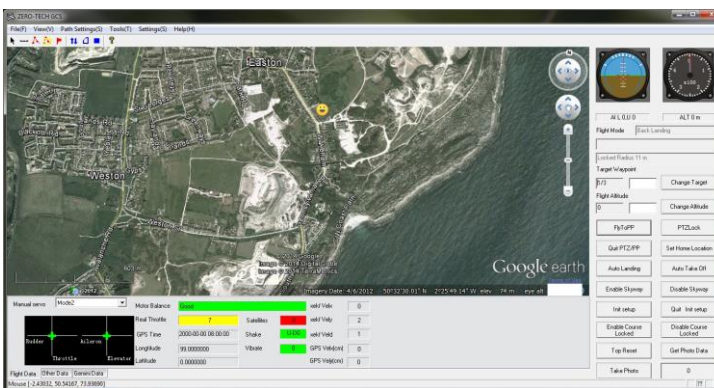

Figure 57
4. Click “Fly to PP”, the purple star will move to the position of the yellow smiley, as shown in Figure 57.